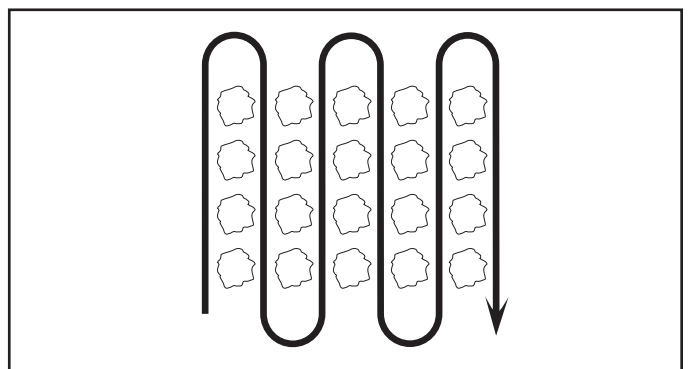

Fig. 9
- Cultivate up and down the rows at a speed which will allow tines to uproot weeds and leave the ground in rough condition, promoting no further growth of weeds and grass (See Fig. 9).